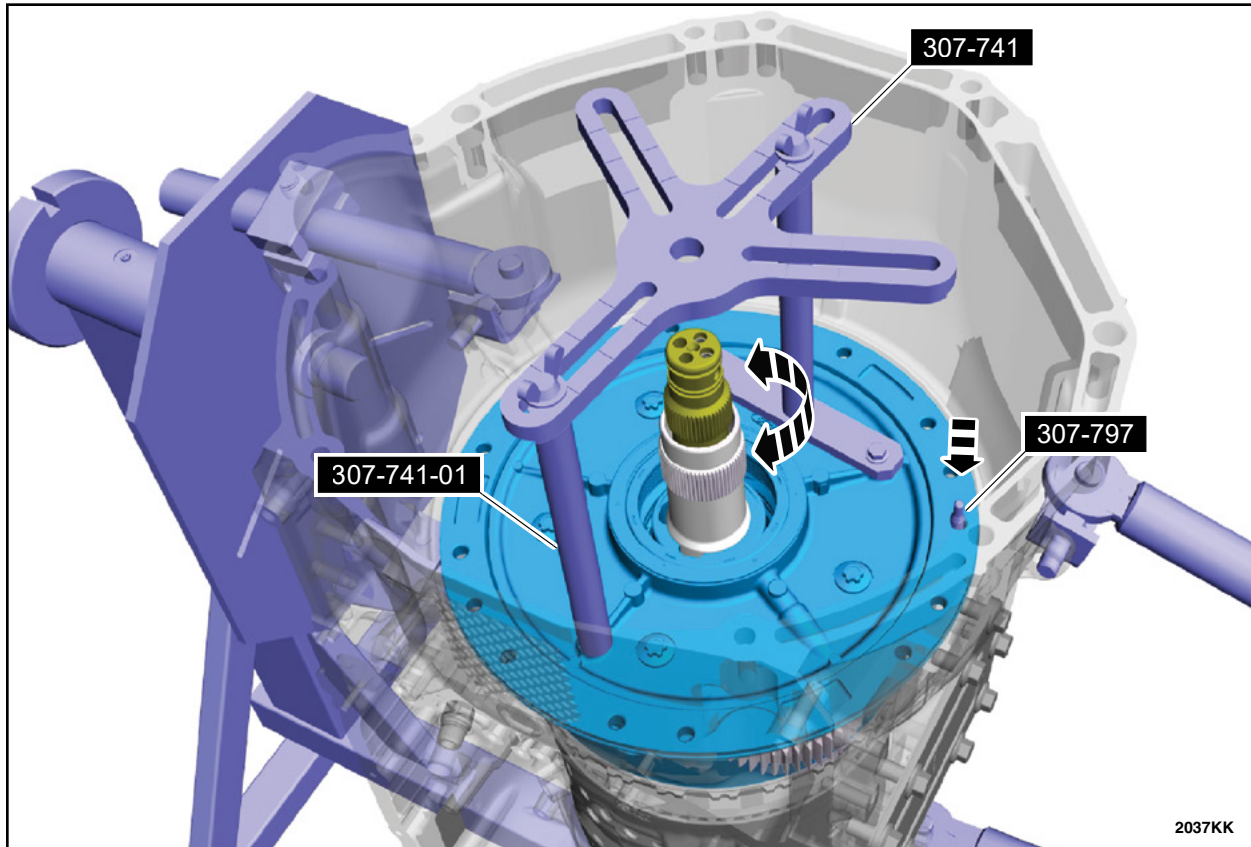

FIGURE 30
32. Using the special tools 307-741 and 307-741-01, install the front support into the transmission case. Rotate the input shaft while aligning the front support to the special tool guide pin 307-797. See Figure 30.